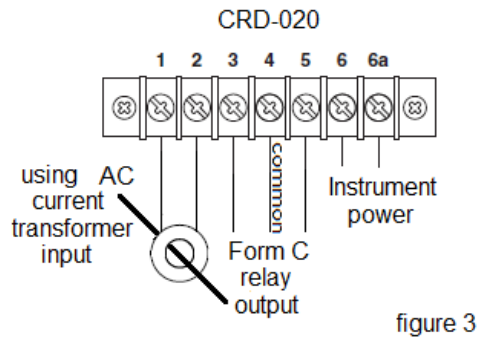

figure 3
CRD-020 with a current transformer (CT) can be connected to the input to monitor and step down a high current value that has a typical secondary rating of 5Aac. Percent of input setpoint is now based on the CT primary value (figure 3).